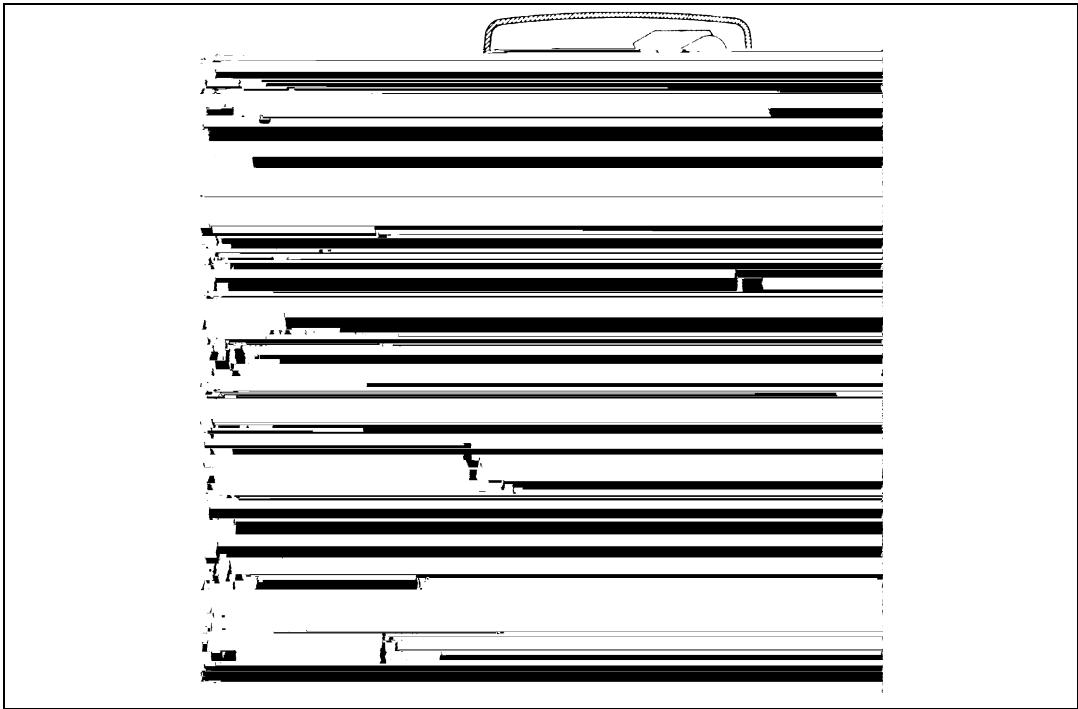

Figure 4: Service Position
1. position. See *Figure 4, page 10*.
- Same as *Figure 4, page 10* with standard piston (white end plug) or filter piston (black end plug).